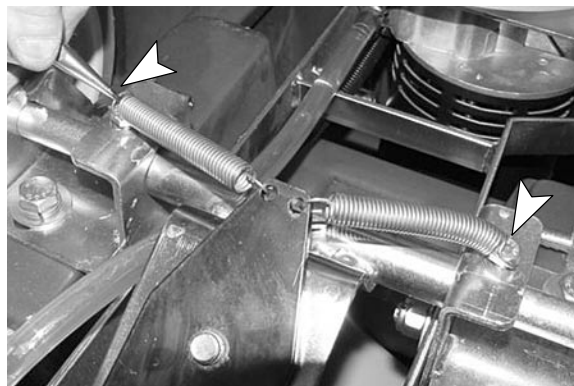

Fig. 2
2. Disconnect the two springs from the axle mount brackets, needle nose pliers required (Figure 2).